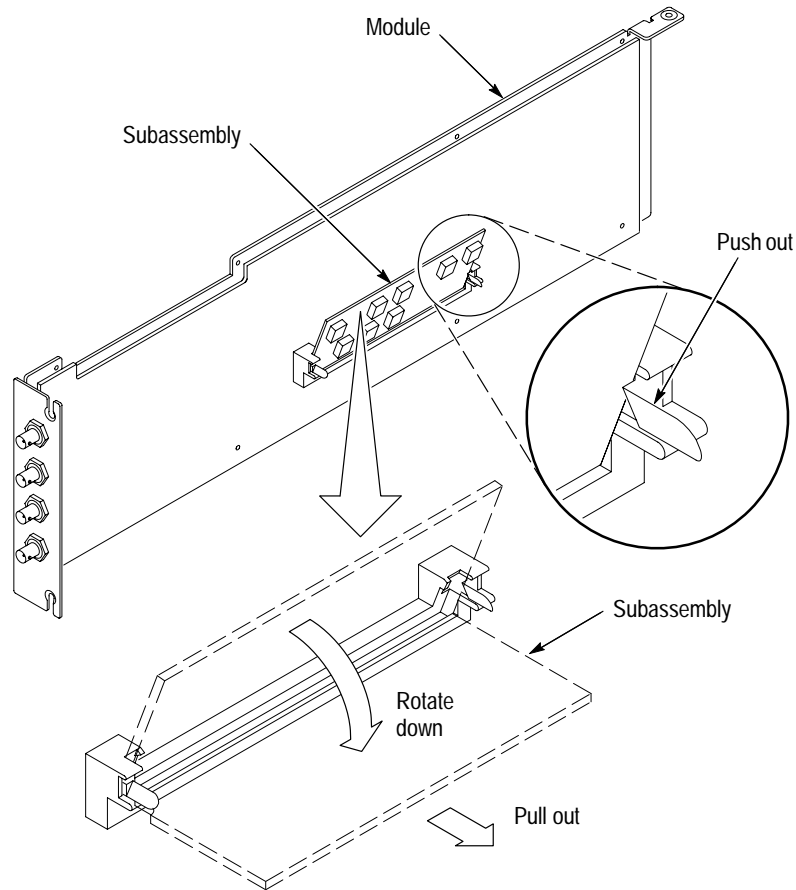

Figure 6-3: Removing a subassembly from a module
3. Remove the subassembly from the AGL1 Genlock module by moving the retaining tabs away from the Delay board and swinging the board down and out. See Figure 6-3.